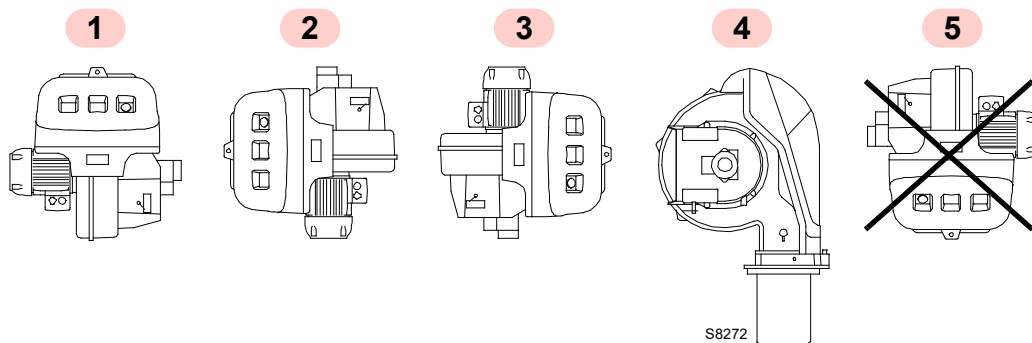

Fig. 7
- The burner is set up to operate only in positions **1**, **2**, **3** and **4** (Fig. 7).